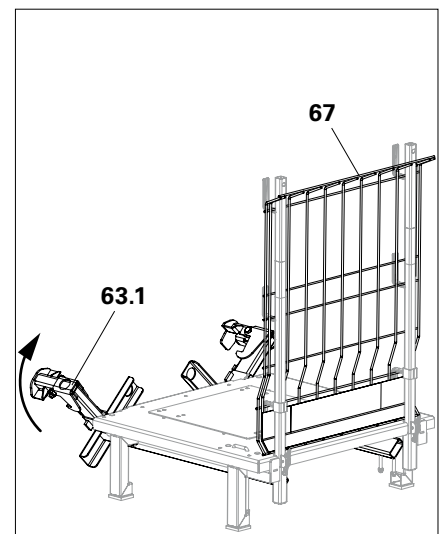

Fig. A7.13
2. Mount the Side Mesh Barrier (67). (Fig. A7.13)
3. Fold Suspension Beam (63.1) upwards. Ensure that the sliding sleeve (63.2) is at the top. (Fig. A7.13 + A7.13a + A7.13b)